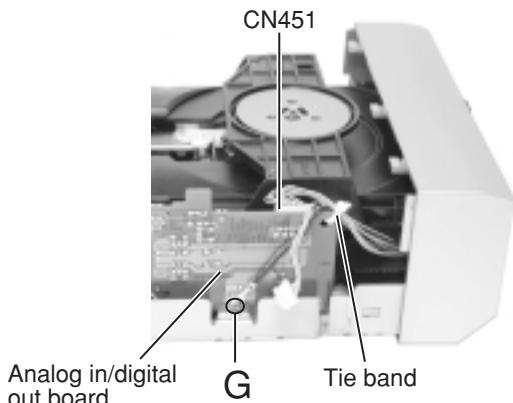

Fig. 8
■ Removing the analog in/digital out board and the relay board (See Fig.8 to 10)